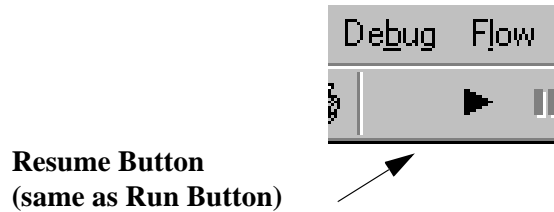

Figure 2-24. Resume Program (same as the Run Button)
- Resume the program to continue and pause at the next object with a breakpoint set. Click the **Resume** button on the tool bar, shown in Figure 2-24. (Also in the Debug menu.)